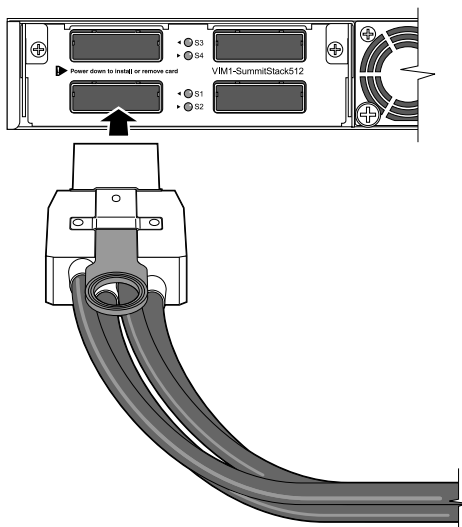

Figure 198: Connecting a SummitStack 128G Cable
- 1 Holding the cable connector with the release tab on top, align the connector with the stacking port on the VIM1 module in the Summit X650 series switch (see Figure 198: Connecting a SummitStack 128G Cable on page 232).